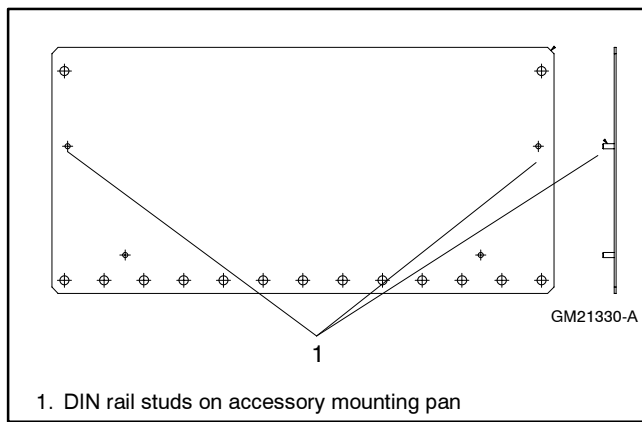

Figure 5 Installing Accessory Mounting Pan and DIN Rail
- 3.3 Locate the studs positioned in the center of the accessory mounting pan. See Figure 5. Place the DIN rail (GM21328) with the slotted hole surface against the accessory mounting pan and secure with two 10-32 nuts (X-6210-1).